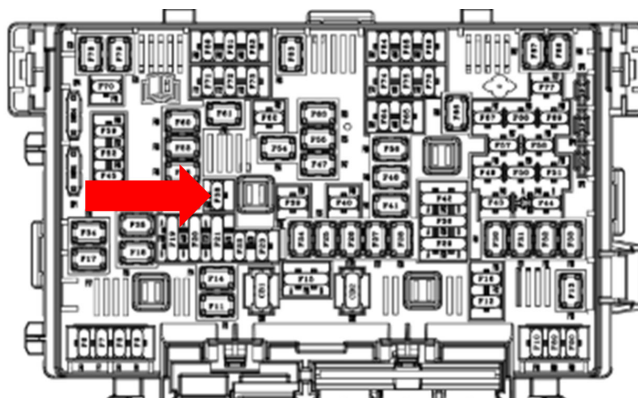

Fig. 3
6. Remove the PDC cover, locate and remove the #38 AGSM fuse Fig. 3.
24. Install the #38 AGSM fuse Fig. 3 and the PDC cover Fig. 2.